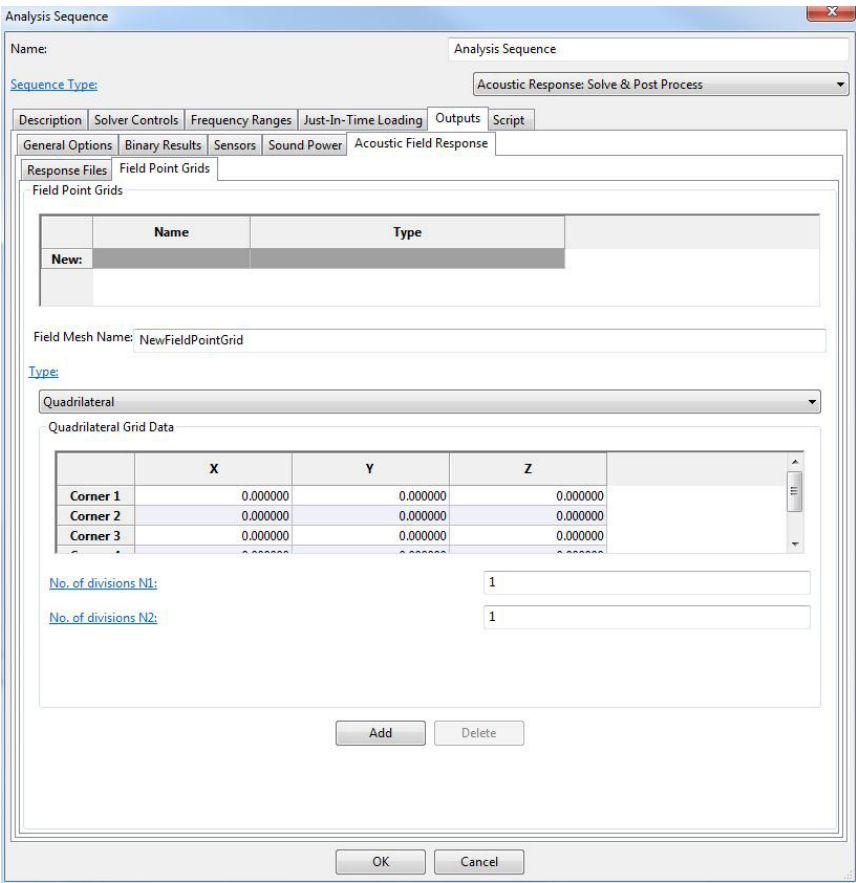

Figure 7.52 Field Point Grids tab.
7.3.6.2. Field Point Grids *Coustyx* offers a variety of field point grid options to visualize acoustic field generated by the boundary element solution. Figure 7.52.